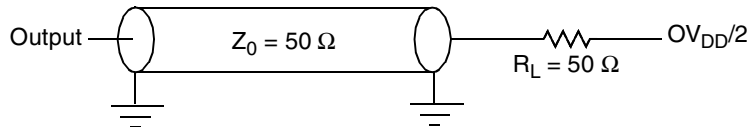

Figure 37. AC test load for the JTAG interface
1. All outputs are measured from the midpoint voltage of the falling/rising edge of t_{TCLK} to the midpoint of the signal in question. The output timings are measured at the pins. All output timings assume a purely resistive 50-Ω load (see Figure 37). Time-of-flight delays must be added for trace lengths, vias, and connectors in the system.
2. The symbols used for timing specifications follow the pattern of $t_{(first\ two\ letters\ of\ functional\ block)(signal)(state)(reference)(state)}$ for inputs and $t_{(first\ two\ letters\ of\ functional\ block)(reference)(state)(signal)(state)}$ for outputs. For example, t_{JTDVXH} symbolizes JTAG device timing (JT) with respect to the time data input signals (D) reaching the valid state (V) relative to the t_{JTG} clock reference (K) going to the high (H) state or setup time. Also, t_{JTDVXH} symbolizes JTAG timing (JT) with respect to the time data input signals (D) went invalid (X) relative to the t_{JTG} clock reference (K) going to the high (H) state. Note that, in general, the clock reference symbol representation is based on three letters representing the clock of a particular functional. For rise and fall times, the latter convention is used with the appropriate letter: R (rise) or F (fall).